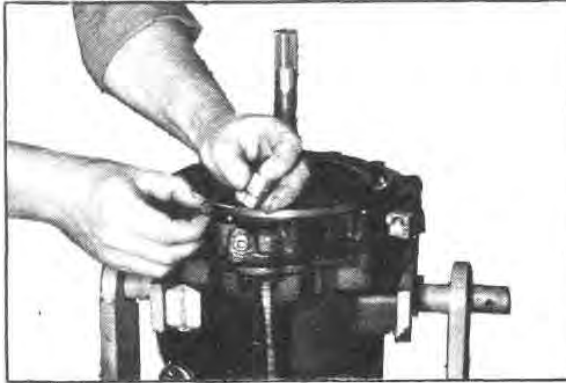

Fig. G20 — The Front Adaptor Capscrews
7. Remove the special cap screws which secure the front adaptor to the forward and reverse transmission housing (Figure G20). Lift the adaptor and reverse piston assembly over the drive gear. If necessary, tap the adaptor with a soft hammer to remove.